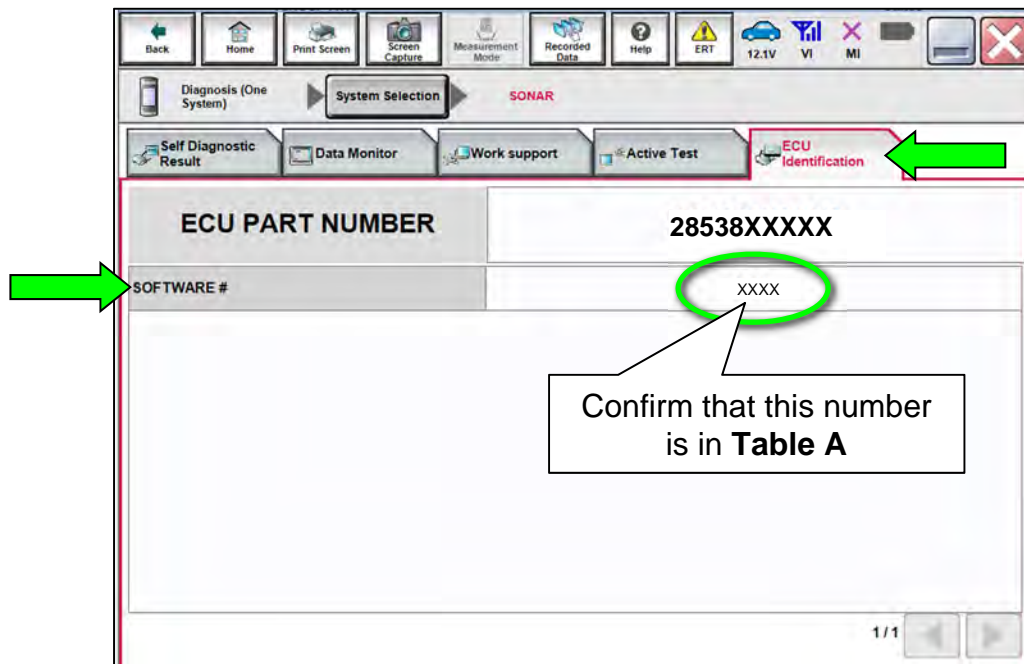

Figure 35
61. Confirm the **SOFTWARE #** (Figure 35).